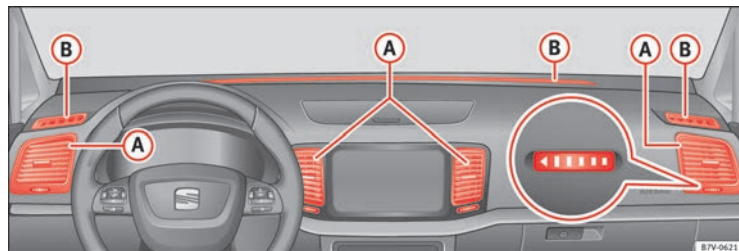

Fig. 125 Air vents in the dash panel
Never close the air vents ⇒ Fig. 125 (A) completely to ensure heating, cooling and ventilation inside the vehicle.